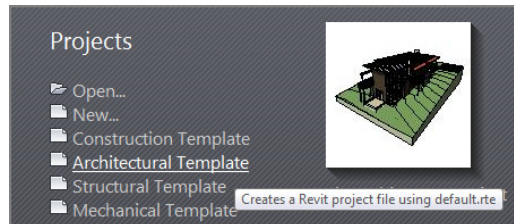

FIGURE 1.4: You can create a new model or browse for an existing one.
3. If you're firing up Revit for the first time, you'll see some sample projects, some sample families, and a getting started video. On the left side of the Projects and the Families categories, you're provided with choices for what type of project or family you would like to start (see Figure 1.4).